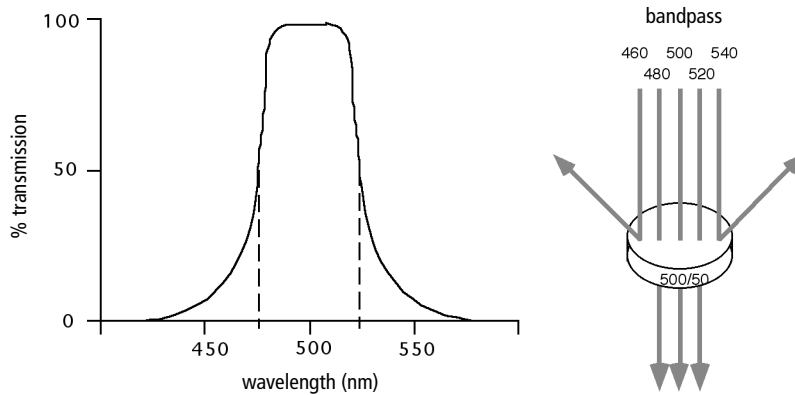

Figure 2-10 Light transmittance by bandpass filters
Bandpass (BP) filters transmit a relatively narrow range or band of light. Bandpass filters are typically designated by two numbers. The first number indicates the center wavelength and the second refers to the width of the band of light that is passed. For example, a 500/50 BP filter transmits light that is centered at 500 nm and has a total bandwidth of 50 nm. Therefore, this filter transmits light between 475 and 525 nm (Figure 2-10).